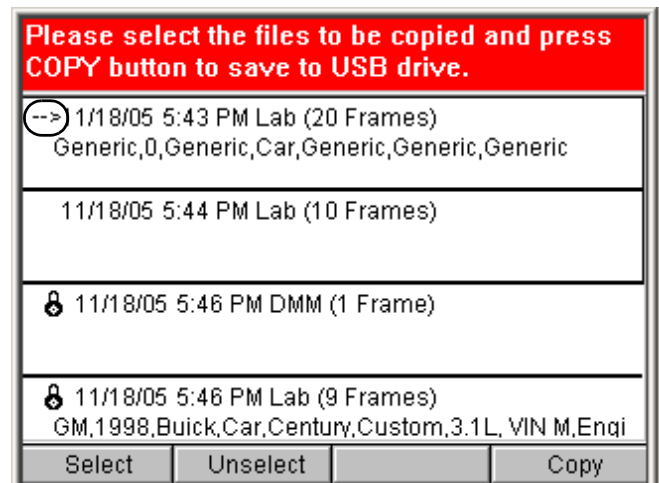

Figure 15.7: Copy Files Screen
- 7 For each file to copy, **select the file** and then press the **Select** function key. This places a small arrow to the left side of the file name, as shown for the top line in Figure 15.7.